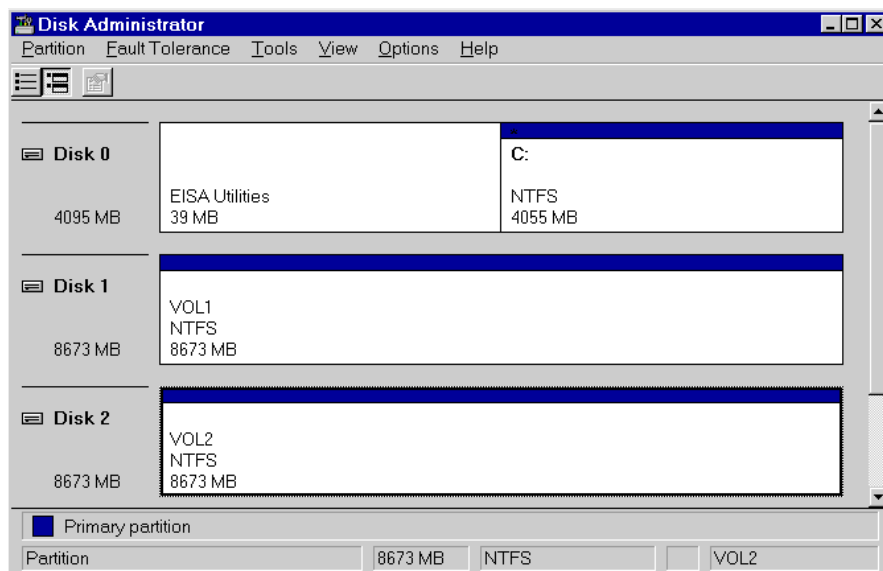

Figure 63: No Drive Letter Assignments
7. Click **Yes**. The partition now appears without a drive letter designator similar to the screen shown in Figure 63.